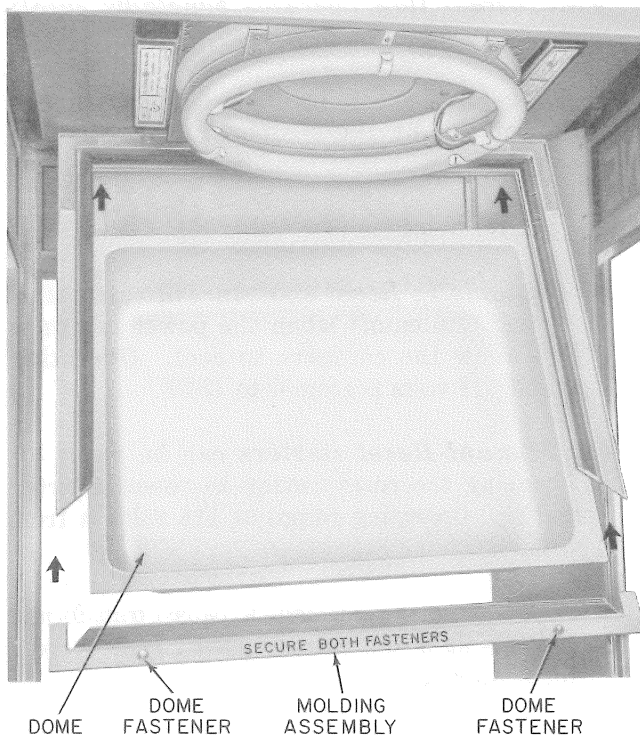

Fig. 25—Installation of Dome
- (3) Remove defective dome and insert replacement as shown in Fig. 25.
- (4) Replace and secure molding assembly.
- (5) *Raise dome and secure in position by locking dome fasteners.*